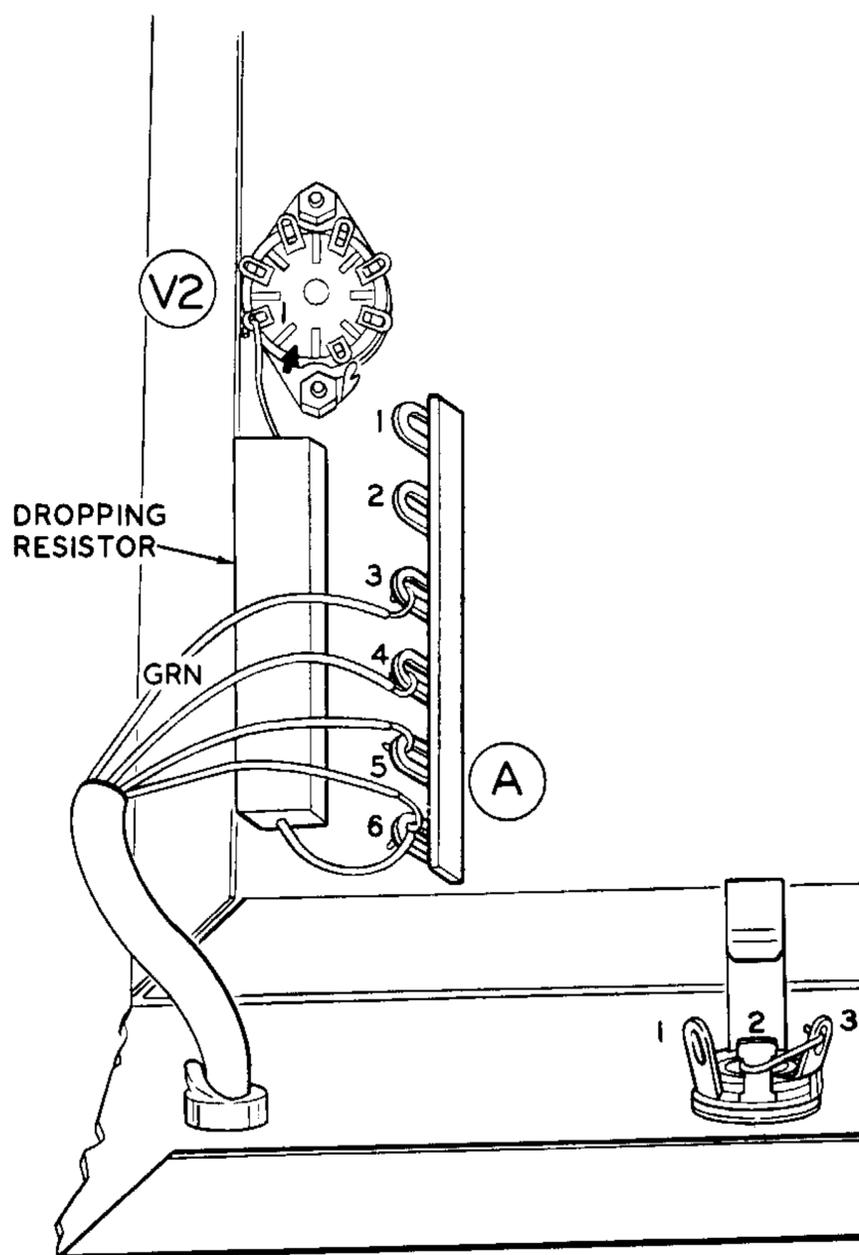
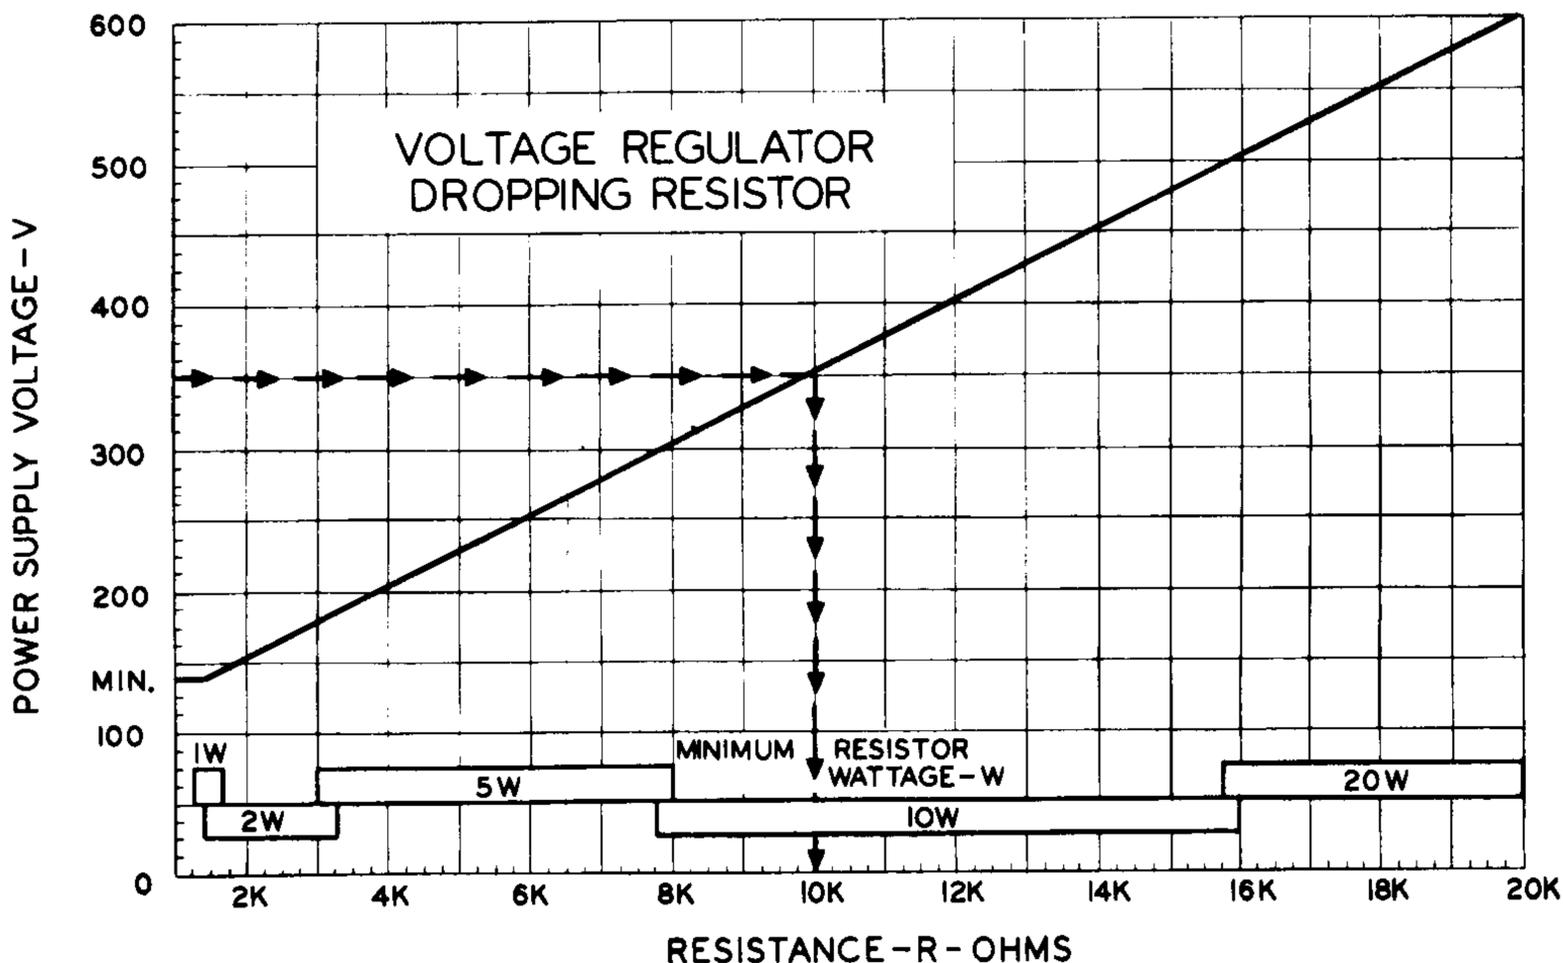
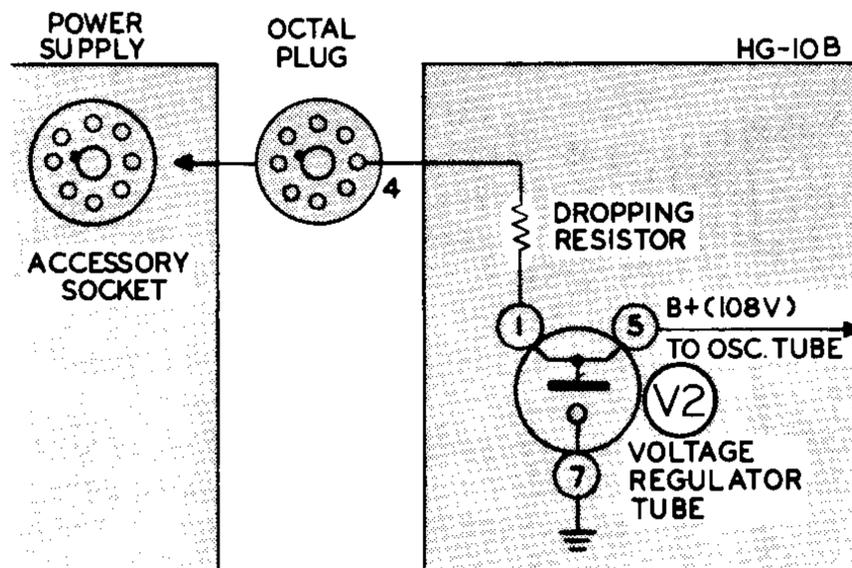

Figure 1
Figure 2
Figure 3
Voltage for the plates and screen grid of tube V1 is applied through series dropping resistor R11 to voltage regulator (VR) tube V2. The characteristics of this tube are such that the current through it will vary to maintain a constant voltage drop across the tube. The DC voltage at the plate of the VR tube, therefore, remains constant, regardless of fluctuations in the applied B+ voltage. Regulated DC voltage from V2 is applied as B+ to V1A and V1B. The use of regulated B+ voltage is essential to the stable operation of oscillator stage V1A. Resistor R11 must be changed in value to compensate for different values of applied B+ voltage. This change is covered under Installation, with Figure 2 to obtain correct values.
- () Disconnect the green wire of the power cable from lug 2 of terminal strip A, then reconnect this wire to lug 3 of terminal strip A. See Figure 1.
- () Clip out the bare wire connected between lugs 2 and 3 of the KEY jack. See Figure 1.
- () Referring to Figure 1, disconnect the green wire of the power cable from lug 2 of terminal strip A, then reconnect this wire to lug 3 of terminal strip A.
The value of the B+ voltage applied to the voltage regulator tube in the VFO is critical. For this reason, the value of the Dropping Resistor in series with the VR tube must be chosen to provide the correct voltage. The chart in Figure 2 should be used to determine the correct resistance and wattage of the Dropping Resistor. For example: If the B+ available from the transmitter is 350 volts, draw a line from the
350 volt point on the vertical scale across to the diagonal line of the graph. Then draw a line down from the point of intersection, to the horizontal scale. The point at which this line crosses the horizontal scale indicates the resistance value and wattage for the Dropping Resistor. This example is shown by the line of arrows on Figure 2. Do not use smaller resistance or wattage values. The correct Dropping Resistor should be installed in the VFO as shown in Figure 1. The 10 K Ω , 10 watt resistor, already in the VFO, should be removed. Figure 3 shows the VR tube and Dropping Resistor circuit schematically.